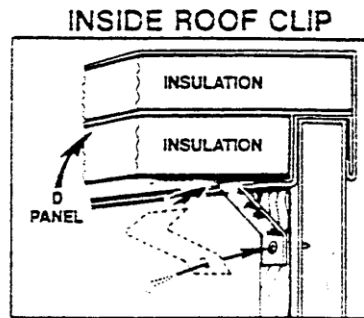
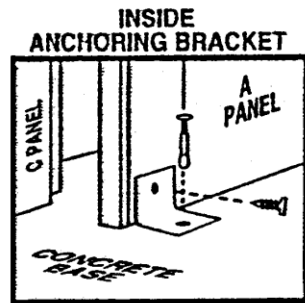

FIG. 1B
FIG. 1A
- 4. Using one (1) hex headed screw for each, attach the Inside Corner Anchoring Brackets to the "A" (end) panels. Using one (1) anchor for each bracket, fasten them to the concrete (Fig 1A).**
- 5. Using four (4) hex headed screws fasten the "D" (roof) panel to the "A" panels through holes provided.**
A. Using one (1) hex headed screw for each, install an Inside Roof Clip in the studs at the top inside of the "A" panels (end) and roof section (Fig 1B).